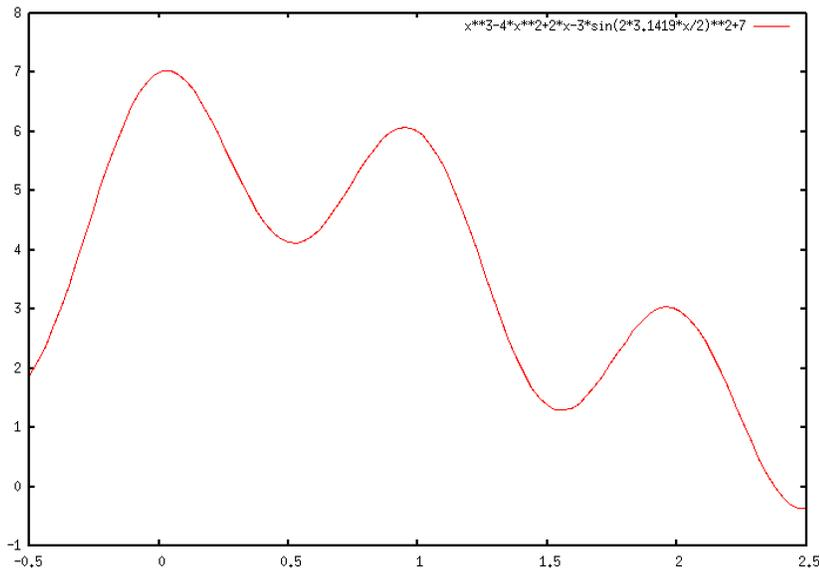

Fig. 5: Graphic display of the $f(x)$ function associated with question 9). Horizontal axis : x . Vertical axis : $f(x)$.
9) You wish to identify the various local maxima of the $f(x)$ function plotted in Fig. 5.
- Explain how the selection operator of the simple genetic algorithm must be modified to allow this detection of multiple optima. Use Fig. 5 to support your answers.